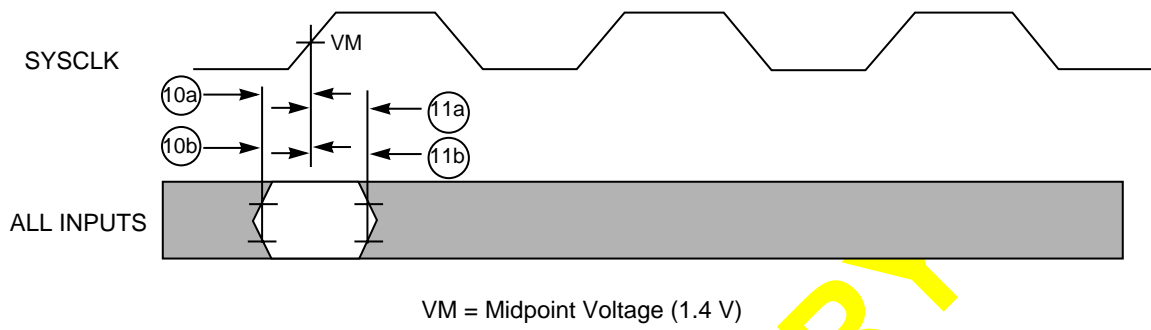
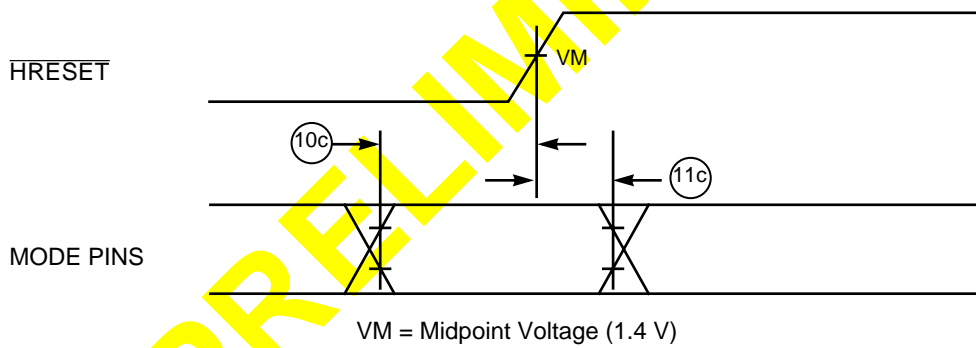

Figure 2. Input Timing Diagram
Figure 3. Mode Select Input Timing Diagram
Table 7 provides the input AC timing specifications for the PID7v-EC603e as defined in Figure 2 and Figure 3.
4. The setup and hold time is with respect to the rising edge of $\overline{\text{HRESET}}$ (see Figure 3).
Figure 2 provides the input timing diagram for the PID7v-EC603e.
Figure 3 provides the mode select input timing diagram for the PID7v-EC603e.